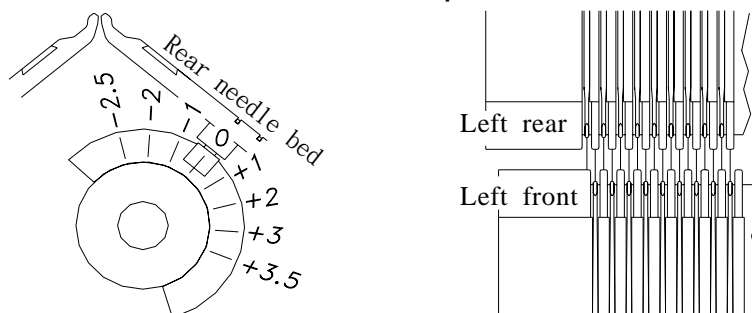

Fig.9-1 Intial position of needle bed
- ① The rear bed can be racked five ( 5 ) pitches, the initial position "0". See the left selvedge of needle bed, the corresponding position that the first needle of rear is on the left hand side of the first needle of front. As shown in Fig.9-1.
- ② In editing instruction you can choose the left racking or the right racking by one pitch.
- ③ In each racking position the rear bed and the front bed must be kept in correct corresponding relation. You check it with pushing one front needle to tuck position, the hook of front needle and the knock-bit of rear bed should be at the same position.